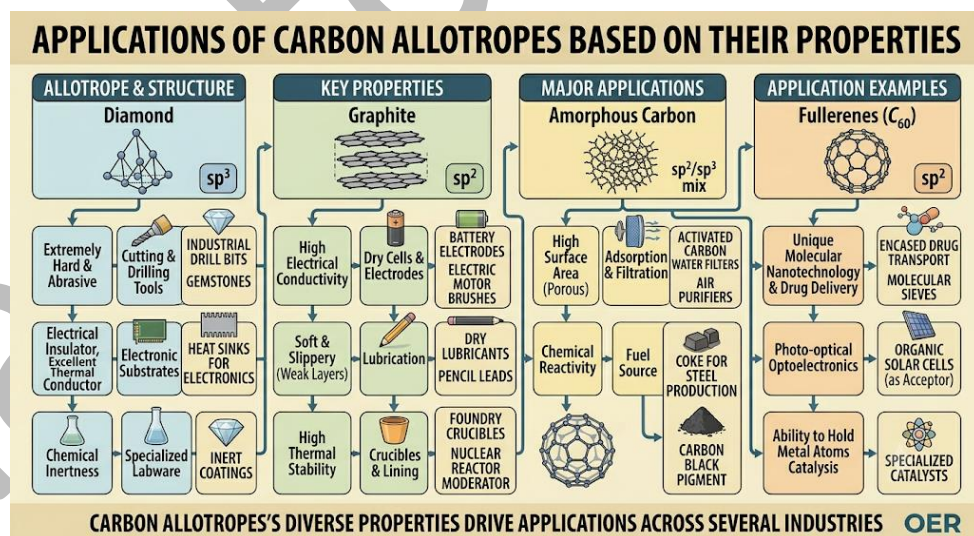

Figure 2.5 Functional significance of carbon allotropes.
- Figure 2.5 Functional significance of allotropes (OER diagram).